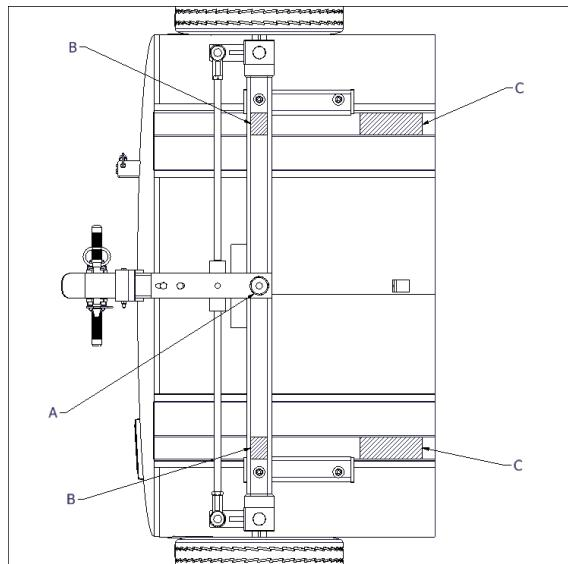

Figure 4-2 Lift Points
- b. Raise equipment with suitable maintenance jack (see Figure 4-2, arrow A for jack placement) high enough to remove wheel assembly.
- c. Place approved jack stands under front axle (see Figure 4-2, arrow B for stand placement).
To remove the entire Front Undercarriage assembly, the equipment must have the front end raised. See Figure 4-2 for lift points.
- a. Raise equipment with suitable maintenance jack (see Figure 4-2 arrow A for jack placement) to allow four inches of space between the wheels and ground.
- b. Place cribbing under tank skids (see Figure 4-2, reference arrows C) to safely support the equipment.
To remove wheel assembly, the equipment must have the back end raised and placed on approved jack stands. Points A and B are similar on both the rear and front axles. (See Figure 4-2)
- a. Raise equipment with suitable maintenance jack high enough to remove wheel assembly. (See Figure 4-2, arrow A for jack placement).
- b. Place approved jack stands under rear axle (see Figure 4-2, arrow B for stand placement).